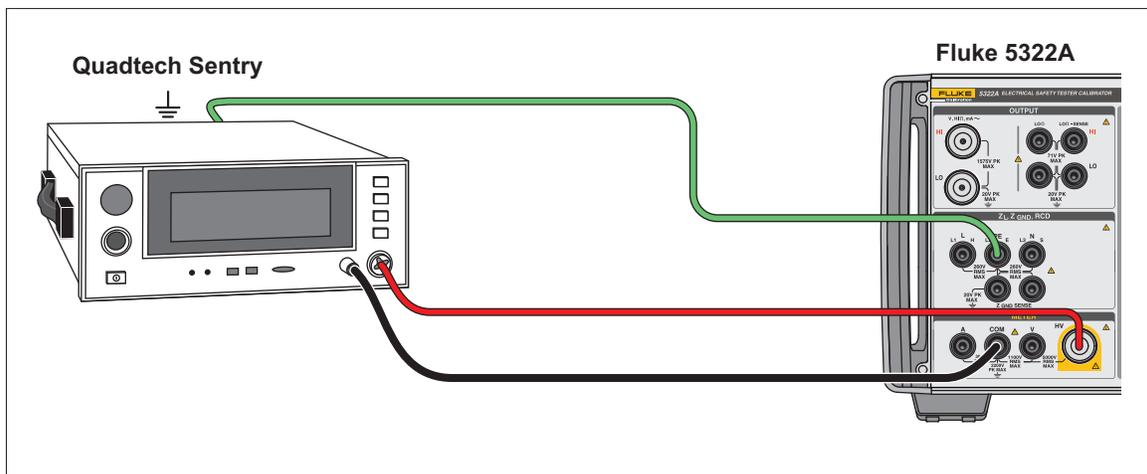

Figure 60. 5 kV Internal Probe Application
2. Connect the DUT through the High Voltage adapter and the Product as in Figure 60.